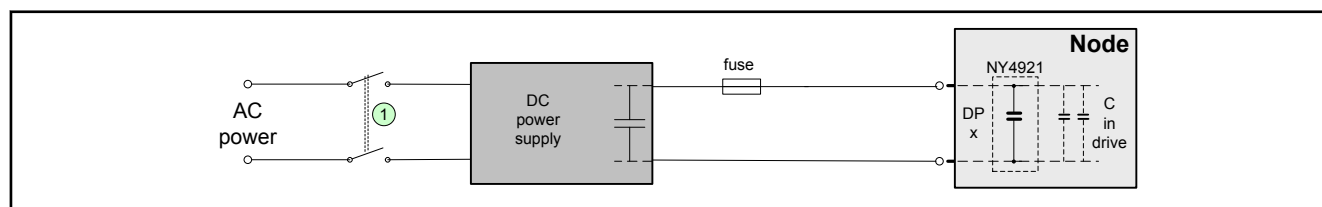

Fig. 9-4: Schematic of drive power supply to a node
The preferred method to switch on and off the drive power is by means of the mains switch as indicated by ① in fig. 9-4 "Schematic of drive power supply to a node" on page 90 to prevent destructive inrush currents.